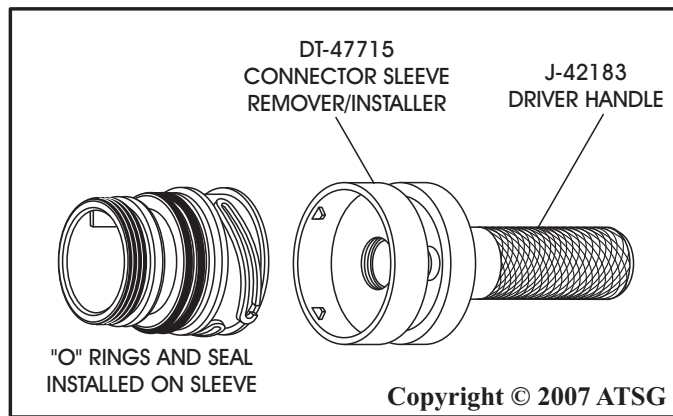

Figure 174
48. There is a special tool available to remove and install the electrical connector sleeve, as shown in Figure 174.